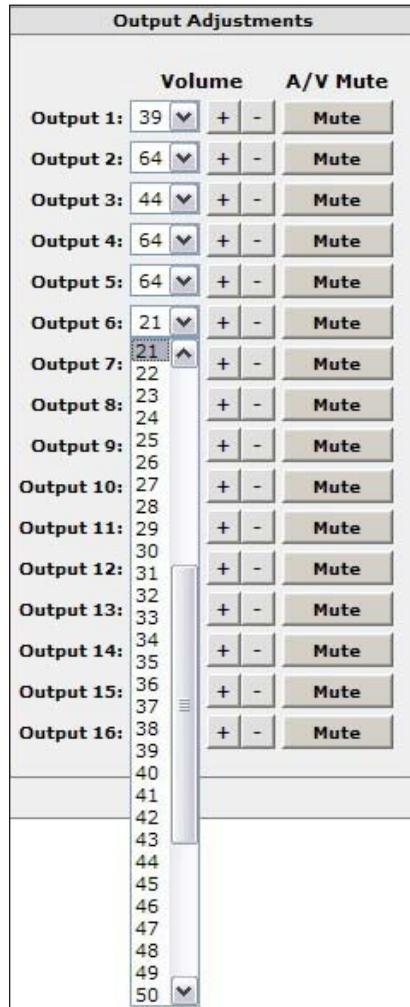

Figure 60. Drop-down List of Volume Settings
1. In the Output Adjustments section, click in the desired output volume field. A drop-down list of volume settings (0 to 64) appears (see **figure 60**, output 6).